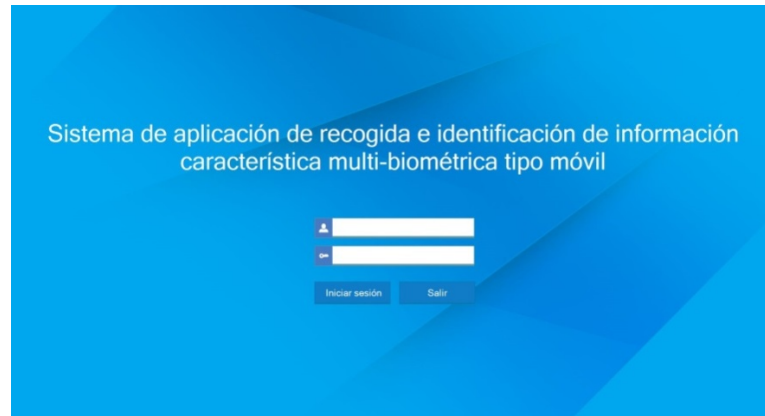
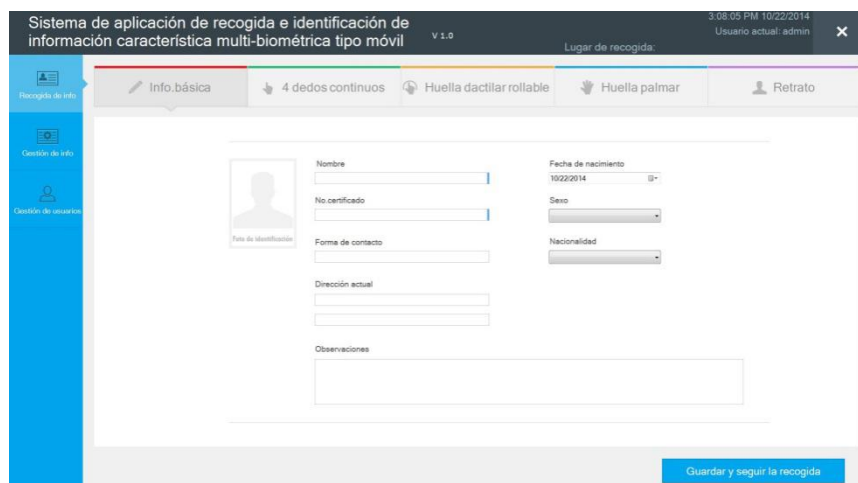

Figure3.2.1
Figure 4.1.1
1. In figure 3.2.1 enter user name and password, click [login], and enter to the first interface of system (as shown in figure 4.1.1).